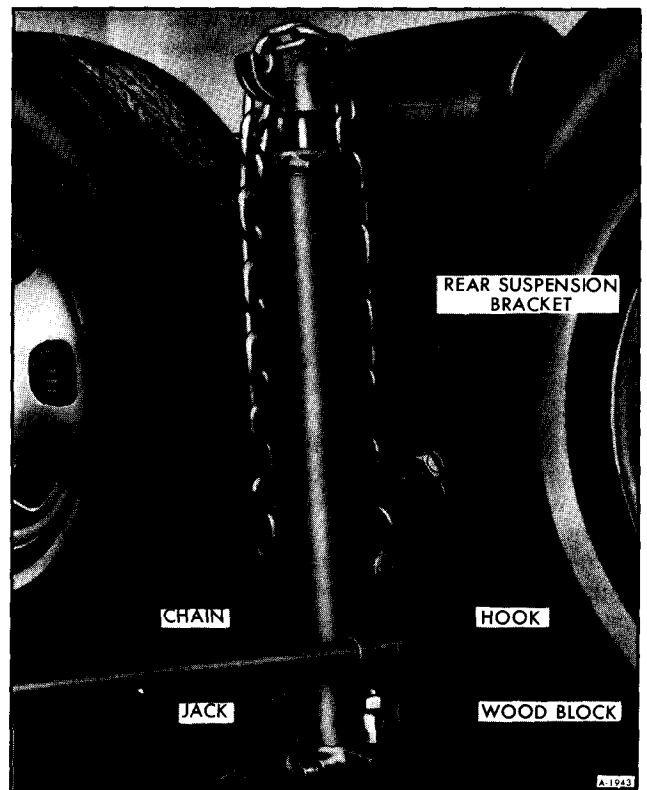

Figure 8—Jacking at Rear of Vehicle
- **JACKING AT REAR**—Place hydraulic jack on wood block close to rear suspension bracket (See figure 8). The hook is placed in the drainage slot under bracket. Adjust chain length so link will fit in fork at top of jack.